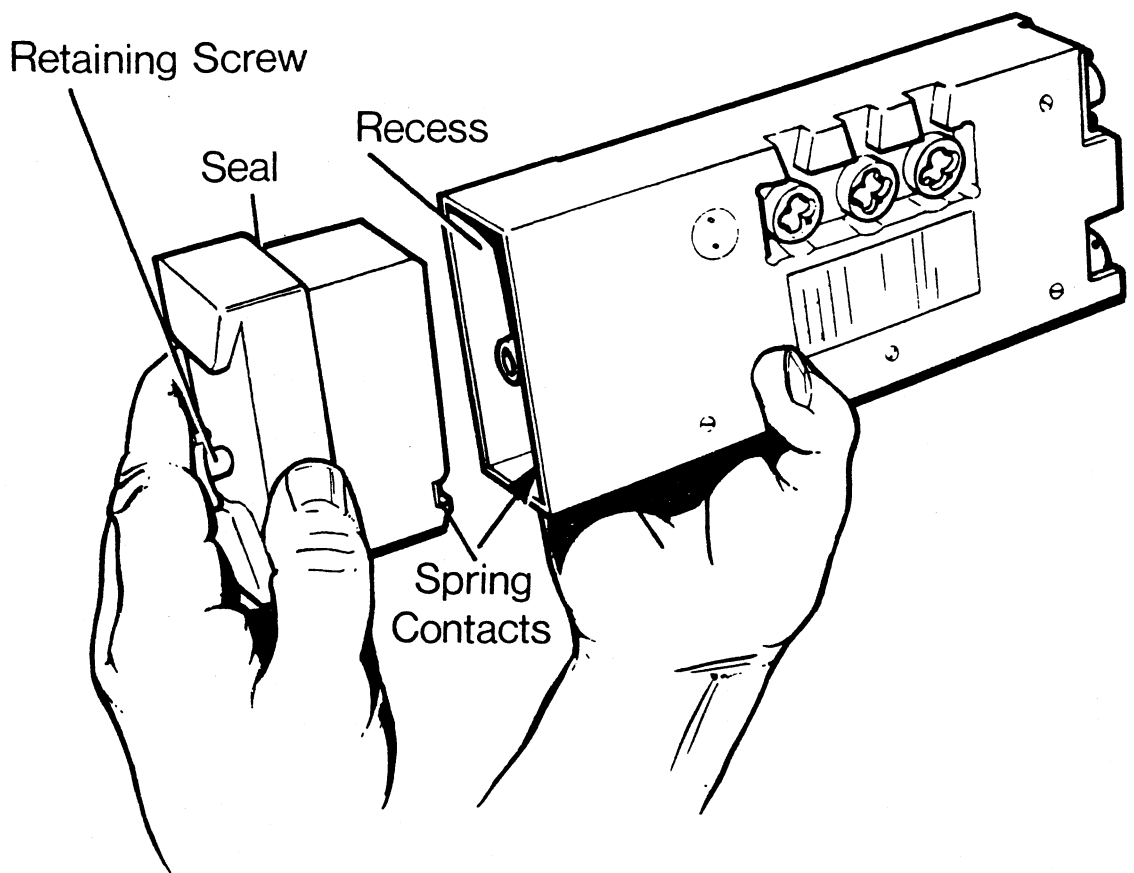

Fig 23.—Connecting Battery to UK/PRC 349
- b. Connect battery (*scews into casing Fig 23*).